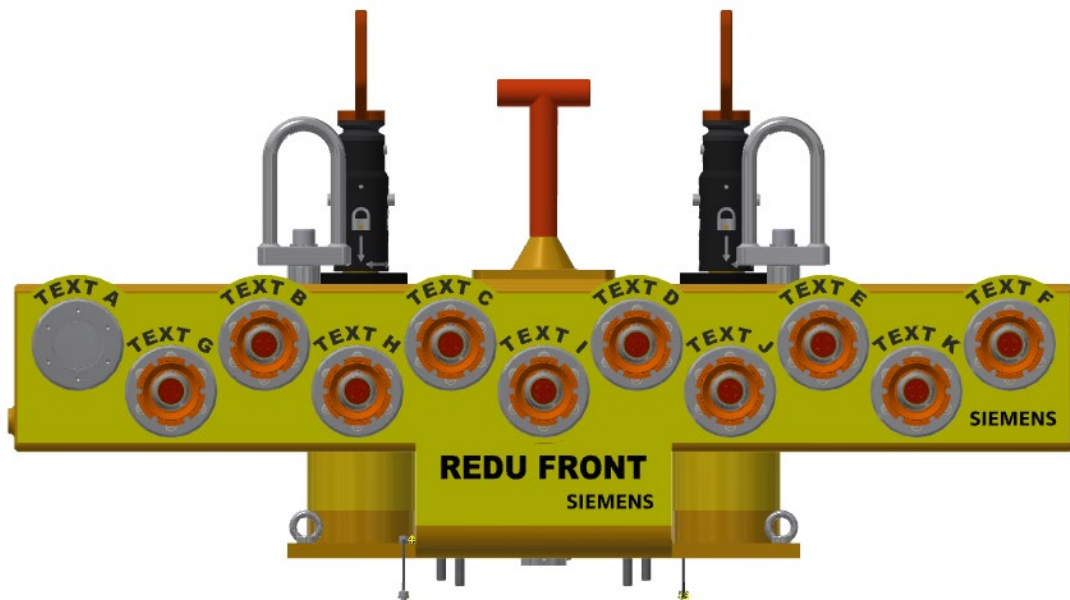

Fig.3 REDU BOX LOCKED ON THE BASE
- 11.3 Make sure that Locking Caps are removed from the Posts prior to mating (if fitted on the posts earlier). And make sure that the REDU Box is locked correctly with Locking Caps after being mated onto the Base Plate (see Fig.3).